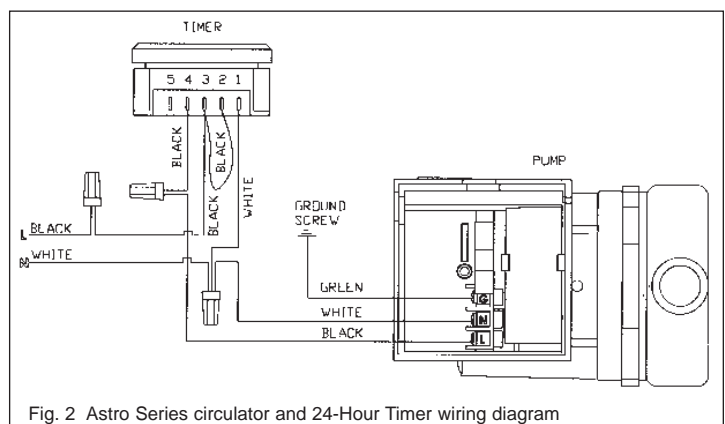

Fig. 2 Astro Series circulator and 24-Hour Timer wiring diagram
2. Unfasten the mounting screw (4A) and remove the terminal box cover (3).
4. Unfasten the mounting screw (4B) on the timer box cover (10) and detach it from the base (8).
5. Remove the lock nut (5A) from the threaded fitting (6) on the timer box base (8).
6. Attach the timer base (8) to the circulator terminal box (2) by inserting the threaded fitting (6) through the opening on the side of the terminal box base.
7. Fasten the lock nut (5A) on the end of the threaded fitting (6) to securely attach the timer base (8) to the terminal box (2).
8. Connect terminal box lead wires (black, white and green) to the timer unit and the power supply (as shown in Fig. 2).